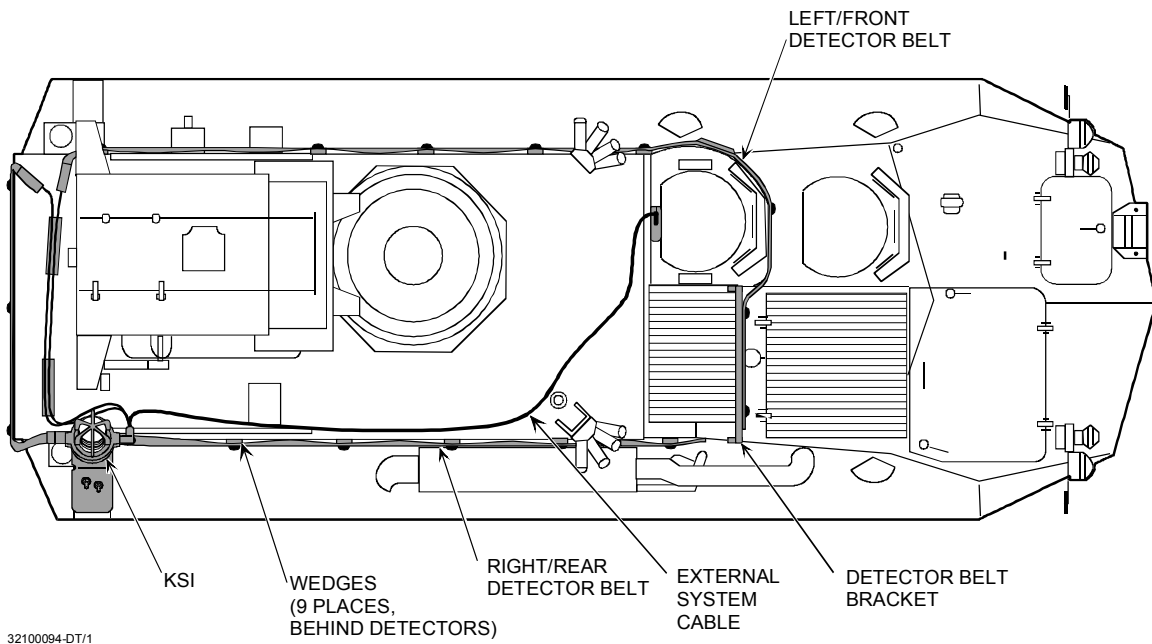

Figure 2-19. Cable Routing.
- d. Lay out the cable on top of the vehicle. Stretch it out and look for the segments labeled KSI, Right/Front, and Left/Rear. Group these segments together. (See Figure 2-19.)